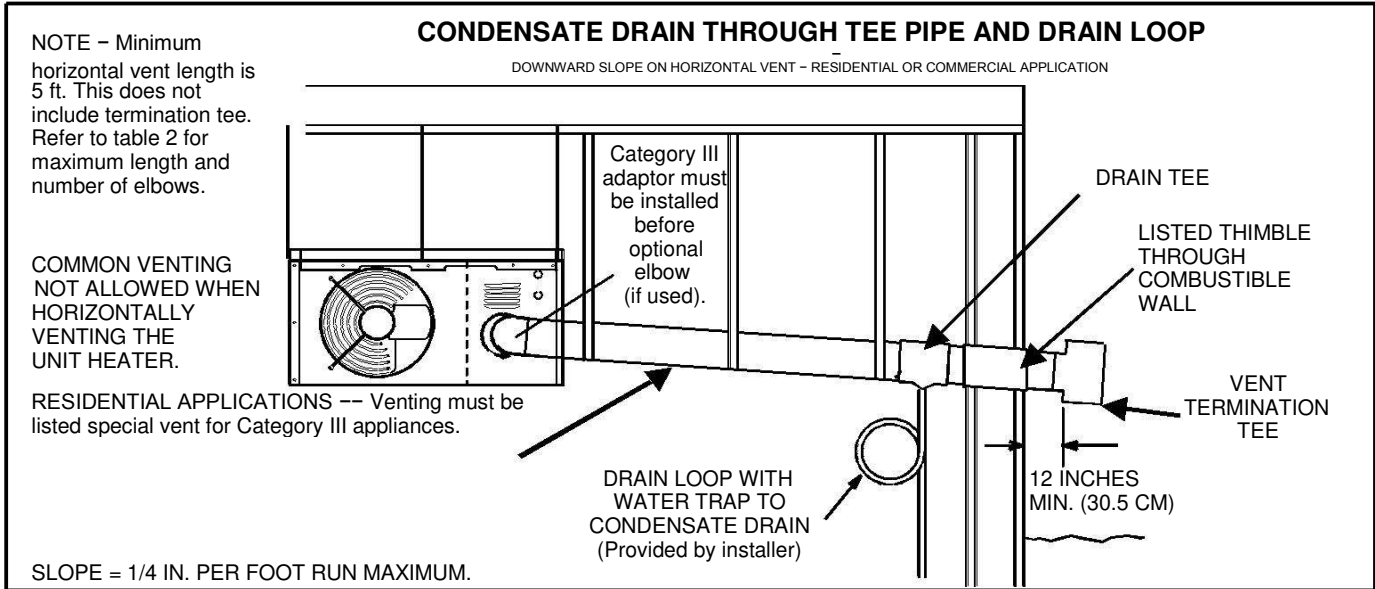
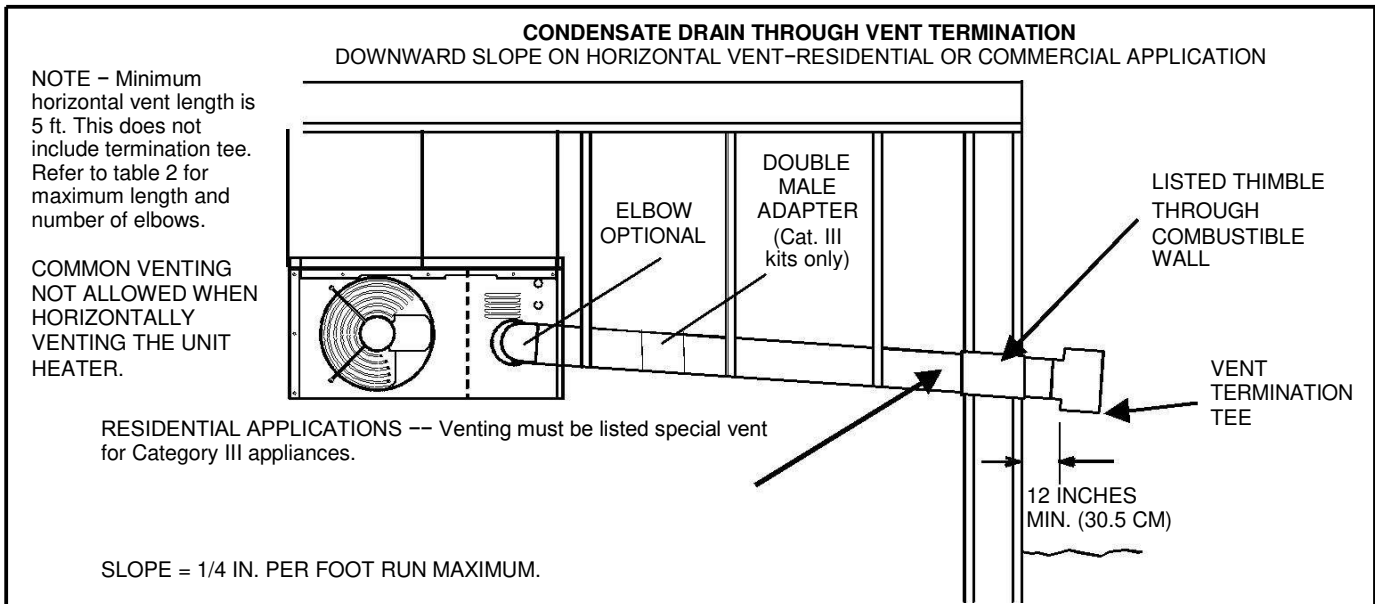

FIGURE 4
FIGURE 5
- 17 – Select a wall termination point that will maintain 1/4" rise per foot slope of horizontal run of vent pipe. In areas where authorities having jurisdiction permit, a downward slope of maximum 1/4" per foot is also acceptable. Condensate drainage can be collected in a tee pipe section (**figure 4**) with drain loop similar to one used for upward slope vent, or allowed to drip through the vent termination, if permitted by authorities (**figure 5**).